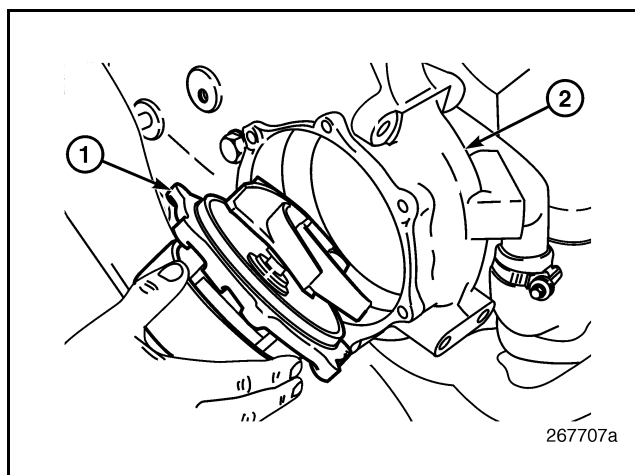

Figure 481 — Water Pump Cartridge
16. Place the pump cartridge assembly in position on the pump housing (pump only fits one way due to the spacing of the seven holes) and install the seven mounting capscrews (Figure 481). Tighten the capscrews to 17 lb-ft (23 N•m).